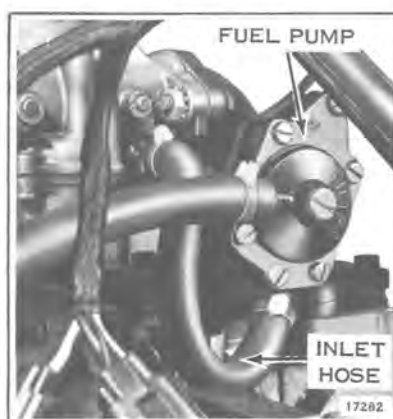

Figure 9-4
6. Disconnect inlet hose from fuel pump. See Figure 9-4. Disconnect primer line from intake manifold.